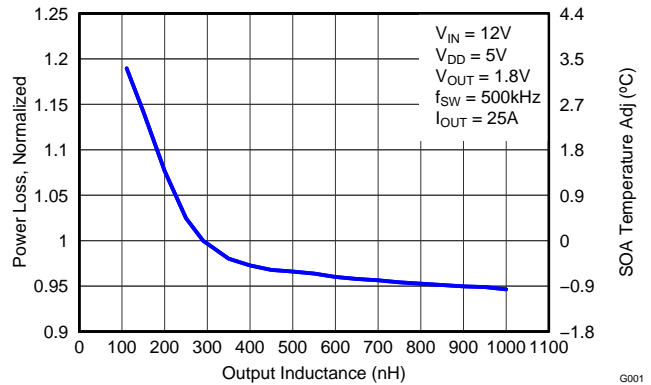

Figure 10. Normalized Power Loss vs Output Inductance
- Normalized Power Loss for output inductor  $\approx$  1.08 (Figure 10)
- SOA adjustment for output inductor  $\approx$  1.4°C (Figure 10)